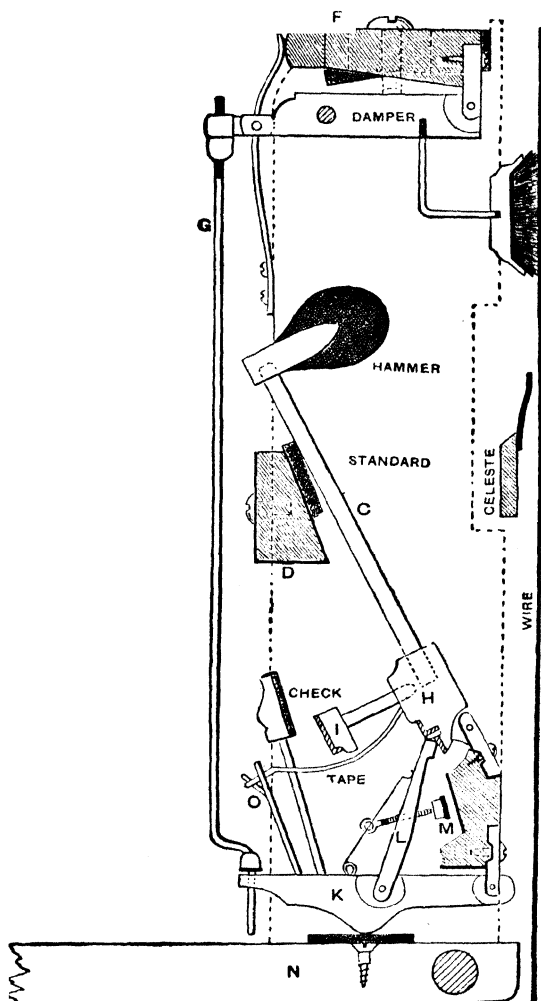
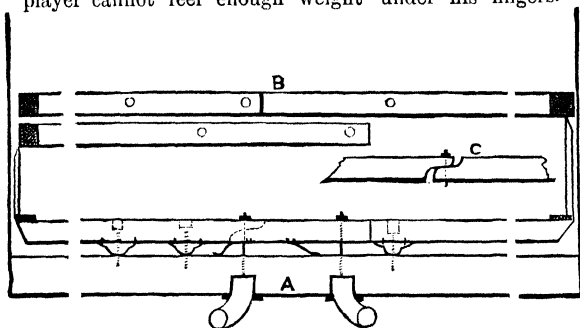
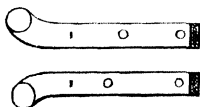
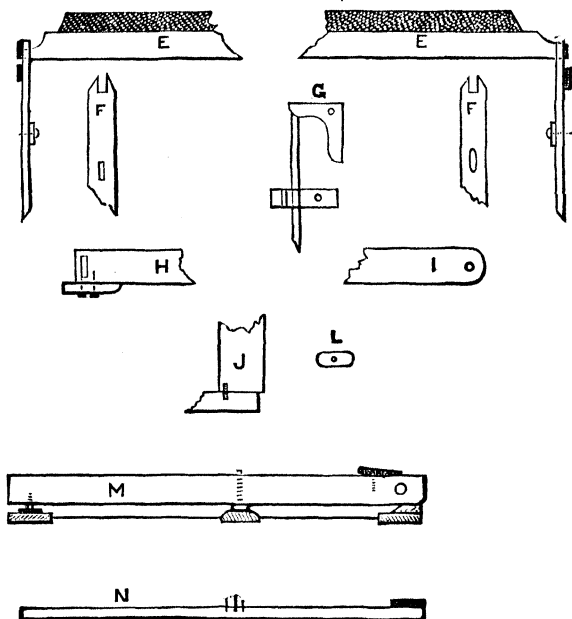

Fig. 19.—Tape Check Action.
Fig. 20.—Arrangement of Pedals and Rockers.
Fig. 21.—Plan of Pedals.
Fig. 22.—Parts of Damper, Celeste, etc.
rail are key pins, those in the balance rail penetrating the keys, while those in the front rail partly do so. On these pins cloth is placed to prevent noise, the back rail also having cloth to form a cushion on which the back of the key rests. The keys in a seven-octave piano number eighty-five, and they comprise fifty white or natural keys, and thirty-five black or sharp keys. Some parts of the tape action are named in Fig. 19; others are: damper rail (F), hammer rest, set off or slide rail (M), lever or crank (K), hopper or fly (L), hammer butt (H), check arm (I), bridle or tape (O), escapement button, bridle stay, and damper wire (G). Fig. 19 is a sectional diagram of a tape check action, and the letter references not yet explained are: c,
The arrangement of pedals, rockers, dampers, etc., is illustrated by Figs. 20 to 22. In Fig. 20, A indicates the pedals in position and the arrangement of rockers; B shows the rockers in plan; and C shows the overlapping of the celeste rockers. Fig. 21 is a plan of the pedals. In Fig. 22, E shows a plan of the celeste and section of the sticks; F a plan of the pedal sticks to support the celeste; G. the crank and the method of
The first business will be to set up the action in the cases ; take the two screws out of each end of the damper rail F (Fig. 19) and put it aside for the present ; now take the extreme bass and treble hammers out of their packet, and file the ends of the shanks until they fit the holes in the hammer butts H (Fig. 19) at each end of the action. In the bottom of each standard put a dowel (see J, Fig. 22) and make two blocks to fit them ; on these the action rests, and they are glued on the key bottom when it is in position. Stand the action on the blocks, put the hammers in the bass and treble holes, and when the point of the hammer touches the string, see that the shank of the hammer is  $\frac{1}{4}$  in. out of the upright and leaning back, both ends the same. Keep the front edges of the standards upright or square, and mark the front of the standard blocks, and keep all in this position temporarily. Leave this for the present.
the place for it to be fixed. When the hammers are all lying back on the rest, overhaul them and see that they are satisfactory; when the hammers are dry, place all the tapes or bridles as before; put the keys in the case, and take out the keys where the frame passes over the cross rails of the key bottom; then move the key frame to the right or left, until each key is under the lever of each note. Now mark the front, middle, and back rails of the frame for holes to be bored for screws to go into the rails of the key bottom. Having bored these holes, put the key frame in position, leaving a space of  $\frac{1}{16}$  in. between the front of the keys and the lock front; screw down to the key bottom. At each side of the standards, hard-wood blocks are fitted to fill up the space between them and the ends of the case; these are 1 in. thick, and the bass one has a piece cut out for a pedal stick to work through, the hole being lined with cloth; the pedal stick is tapered from 1 in. at the bottom to  $\frac{1}{2}$  in. square at the top. In a line with the front of the standard a  $\frac{3}{16}$ -in. slot is cut out of the blocks for a button to fit in which secures the action in its place. The position of these blocks on the ends of the case is 1 in. above the top of the hammer rest; put a screw through these into the ends, also glue them; scratch a line under them on each standard and insert a small dowel, allowing it to stand out  $\frac{1}{2}$  in.; these press under the blocks and prevent the action from moving upwards. Screw one button L (Fig. 22) on each standard to fit in the slots before mentioned; the buttons can be made of beechwood  $\frac{3}{16}$  in. thick, 2 in. long, and  $\frac{3}{4}$  in. wide; both of the ends are rounded, a hole is bored in the centre for a  $\frac{1}{4}$ -in. screw.
arrangement (see Fig. 19, p. 45) is dispensed with. The striking and damping are self-contained, the check of vibrations being effected *below* the point where the hammer strikes instead of above, so rendering it possible to adjust the set off and toning without
The piano must be placed on its back on two trestles, so that the worker can get at the bottom of it. Make two pedals of beechwood 16 in. long and  $\frac{3}{4}$  in. thick, as shown in Figs. 20 and 21 (pp. 46 and 47). Mark 4 in. from the front, and put two pins in temporarily; this is the distance they stand out in front of the plinth. Bore a hole in the right or loud pedal  $2\frac{1}{4}$  in. behind the temporary pin and in the left or soft pedal,  $3\frac{5}{8}$  in., for the pedal bolt to pass through. Pedal bolts are made of stout wire with a nut to screw on the top. Bore a hole in each pedal  $1\frac{1}{2}$  in. from the back for a stout screw to go through. Glue a piece of felt on the bottom of each to prevent noise.
mark for the pedal bolt to go through, the other end of the rocker being cut so that it is  $\frac{1}{4}$  in. from the base end of the case. The rocker is bored with a  $\frac{1}{2}$ -in. centre-bit half-way through over the block, the remainder being bored with a spoon bit for a 2-in. screw. Round the block over from the hole at the bottom and insert a pedal spring so that its point comes near the bolt hole; clean this nicely with glasspaper, rub some soap on the block and spring, put the bolt through the pedal from the bottom and through the rocker, put the screw in through the block, and then pull the pedal and see that it works free, without noise. Do the same with the back rockers, except that they overlap each other, and the pedal bolt penetrates both. The short rocker is at the bass end and the long rocker at the treble. Rub plenty of soap where there is friction. Figs. 20 and 22 (pp. 46 and 49) show how the parts are arranged.
The soft pedal in this piano works what is known as the celeste; a strip of felt or flannel on a slip of wood rises when the pedal is depressed and the felt is interposed between the hammers and strings, and so softens the tone. Fig. 19 illustrates the celeste, but not the mechanism for working it. It is also shown by E (Fig. 22). The loud pedal moves the crank G (Fig. 22), which gives the damper rail a forward movement, taking the dampers away from the strings and allowing free vibration, so making the tone louder. By referring to F (Fig. 22) it will be seen that the two sticks which hold the celeste have slots in them, and that a piece is cut out of the top for the celeste slip to ride in; screws pass through the slots into each end of the case to keep the celeste in position, so that it is near but does not jar on the strings; fit it so that the top edge of the flannel is  $\frac{1}{2}$  in. below the strike line when the pedal is at rest. The crank is made of beech  $\frac{1}{2}$  in. thick, and is screwed on the end of the case above the damper rail at the bass end, the front of the